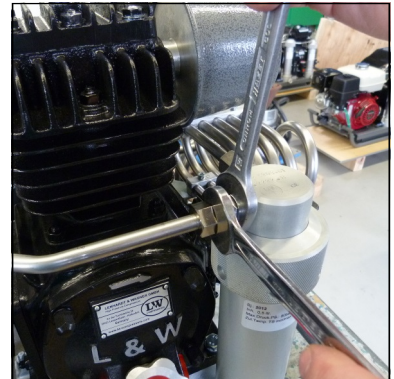

Fig. 1 - Loosen pipe connections of the water separator
- Tighten pipe connections (Fig. 1+2).